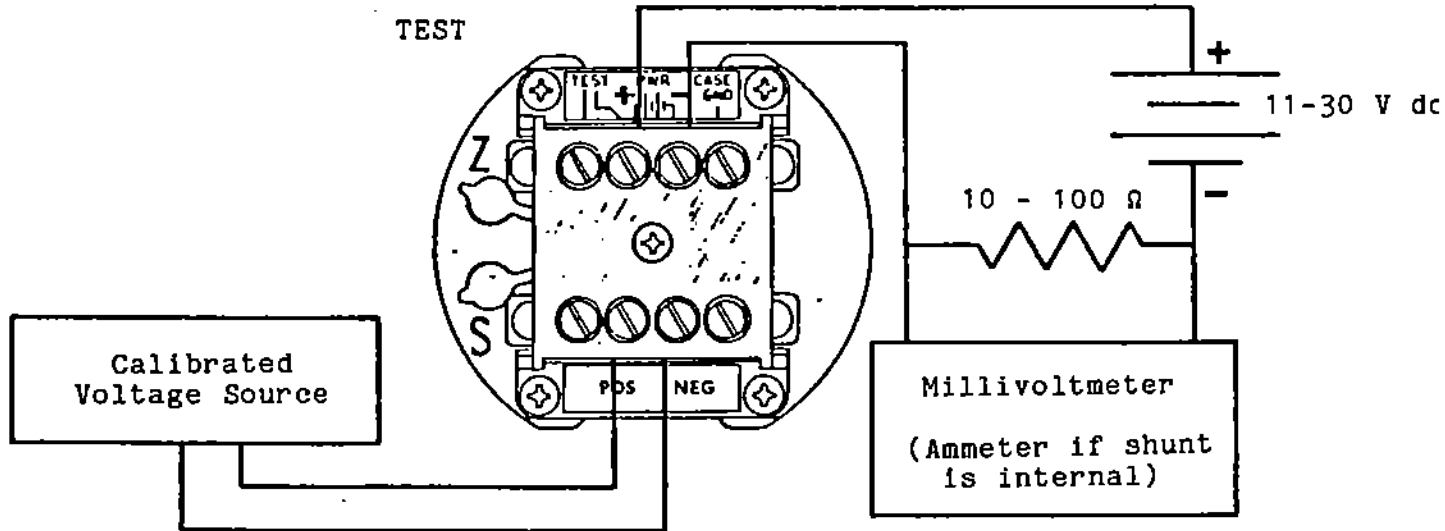

Figure 5-1 Calibration Hookup
6. Refer to Figure 5-1 and connect the transmitter to the power supply, voltage source, current shunt, and voltmeter.
10. Set the voltage calibration source to HI-IN volts and note the output current (generally this will not be 20 mA). This current level is designated INITIAL TOP (IT).
11. Calculate TOP CORRECT (TC), the corrected output current, with the following equation (generally this will also not equal 20 mA).